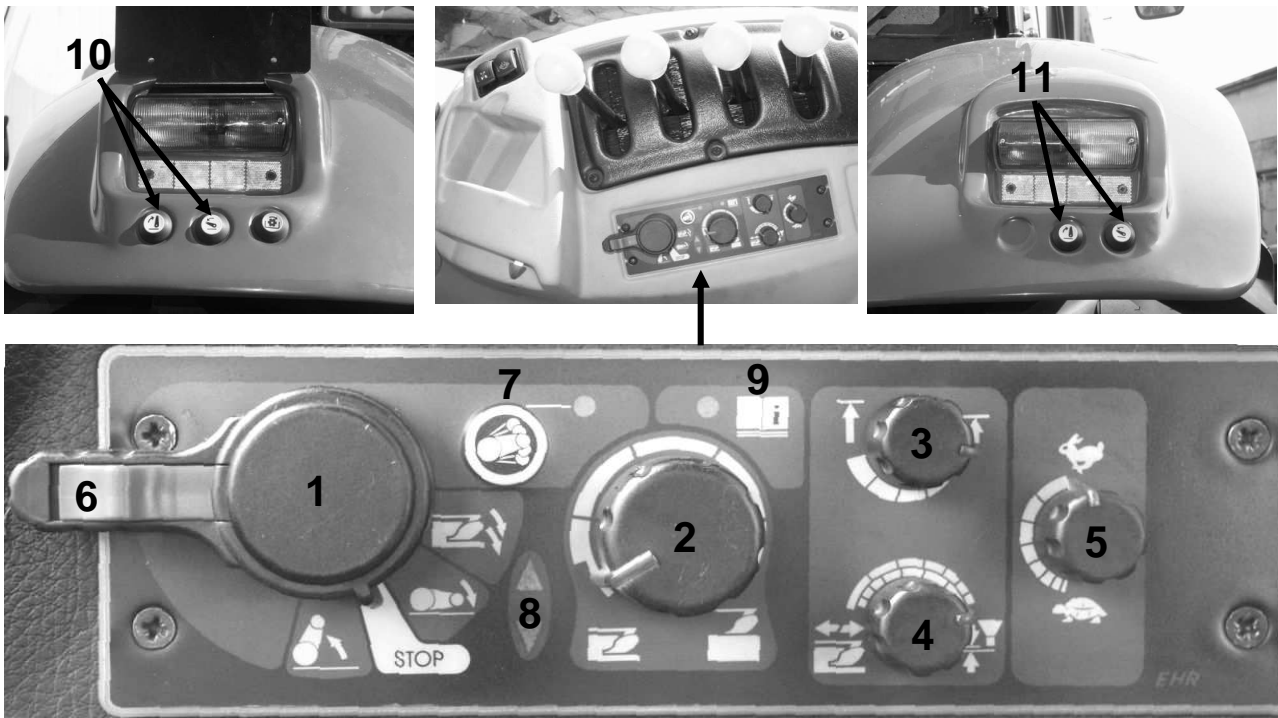

Figure 5-21 EHR electrohydraulic control system panel.
Control of the rear three point lift with the electrohydraulic system is with the aid of the control pulpit (Figure 5-21) located on the right side of the seat and additional arm lift and lower buttons on the rear of the mudguards on right and left sides of tractor (Figure 5-21, item 10) (they are used during linking machines and agricultural implements).
- using dial **4** (Figure 5-21) - depending on the type of fieldwork, determine the means of implement regulation (position, power or mixture);
ATTENTION: Do NOT use tractor in the event of hydraulic pump malfunction, if the light 8 (Figure 5-21) is not extinguished after lifting implement.
- lever 1 (Figure 5-21) set in position "lifting" (then implement is raised to the extreme upper setting) and button 6 to lock implement in transport position;